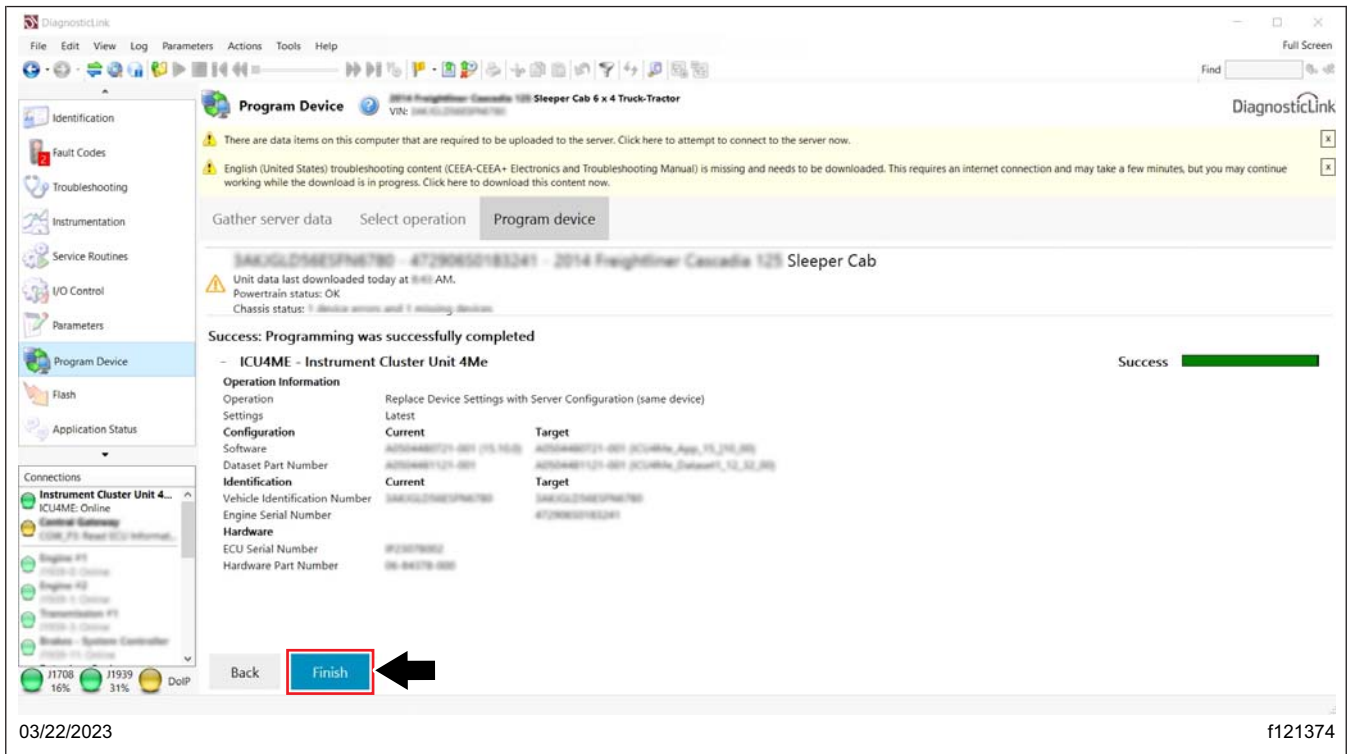

Fig. 16, Programming Successfully Completed
8.10 After the device is successfully programmed, select 'Finish.' See Fig. 16.